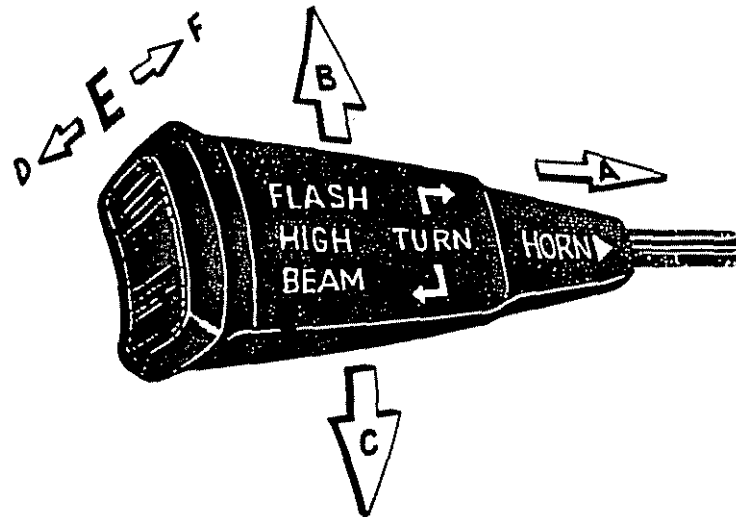

Fig.5 Direction indicators/headlamps/horn
1. **Horn** = push the switch stalk **towards** the column (A of fig.5) to **operate** the horn.
2. **Direction Indicators** = move switch **stalk** down until it **locks** to operate the **left-hand flashing indicators** (C of fig.5) and lift up stalk **for** right-hand indicators (B of fig.5). The switch will cancel **automatically** when the steering wheel **is** returned after executing the turn. Flashing lamps in the **centre** of the 'Warning Lights' panel will flash in **unison** with **Indicators when operating**.
3. Headlamps - the **normal** central position of the switch *stalk* (E of Fig 5) **will give** dipped headlights and with the switch pushed forward until it locks, full main beam will be selected. These functions are operative only when the lighting switch on the instrument binnacle is in its fully down position.